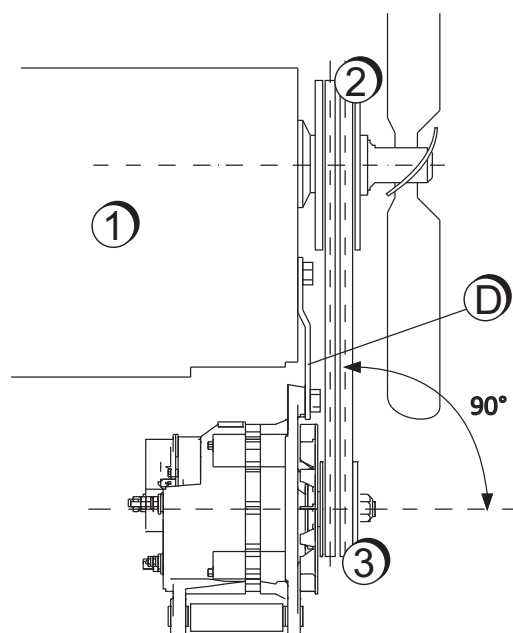

Figure 6: Alignment
- 3 See figure 6. Align the alternator pulley (3) with the engine (1) drive pulley (2) and tighten the bracket mounting bolts, securing the mounting bracket (4) to the engine.